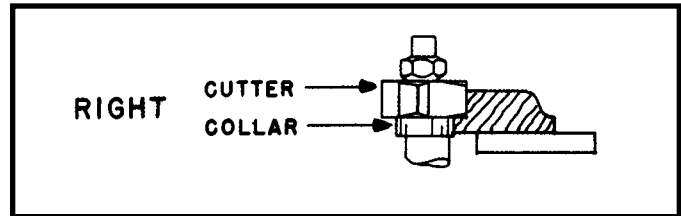
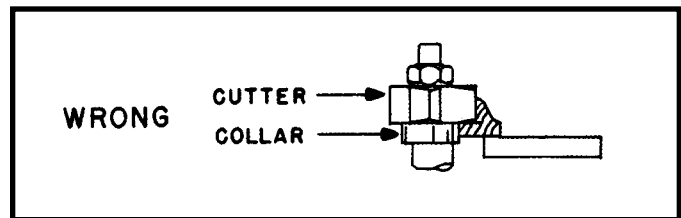

Fig. 41
Fig. 42
4. The work **MUST** be fairly heavy in proportion to the cut being made as shown in Fig. 41. Under **NO** circumstances should short work of light body be shaped against the collars as shown in Fig. 42.